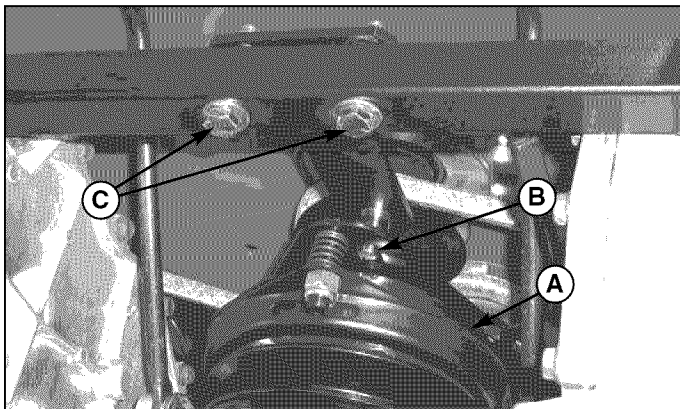
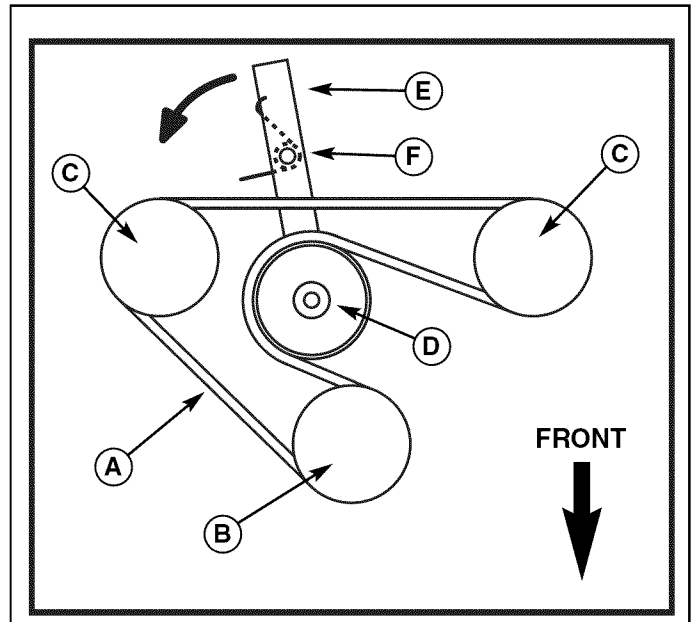

Figure 33a. Anti-Rotation Bracket (View Looking Back from Mower Deck)
Figure 33b. Transmission Drive Belt Replacement (Shown from Below; Components Removed for Clarity)
3. Relieve tension on the transmission belt (A, Figure 33a) by moving the idler arm (E) in the direction indicated by the curved arrow, and remove the old belt from the crankshaft and transmission pulleys.
4. Loosen (do not remove) the anti-rotation bracket hardware (C, Figure 33a), and slip the old belt out between the anti-rotation pin (B) and the PTO (A).
- C. Transmission Pulley (2)**
5. Reversing steps 3-4, install the new belt, following the routing in Figure 33b. Make sure the V-side of the belt runs in the grooves of the crankshaft pulley and transmission pulleys (B & C). Also, make sure that the anti-rotation pin (B, Figure 33a) is inserted into the anti-rotation slot on the PTO before tightening hardware (C).